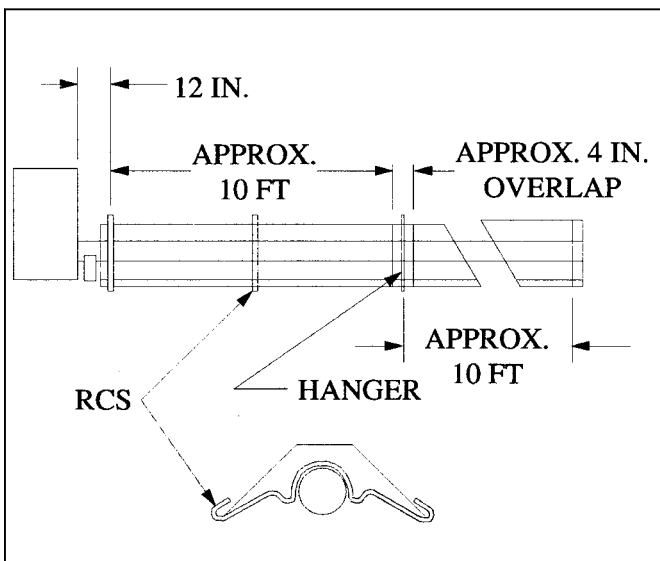
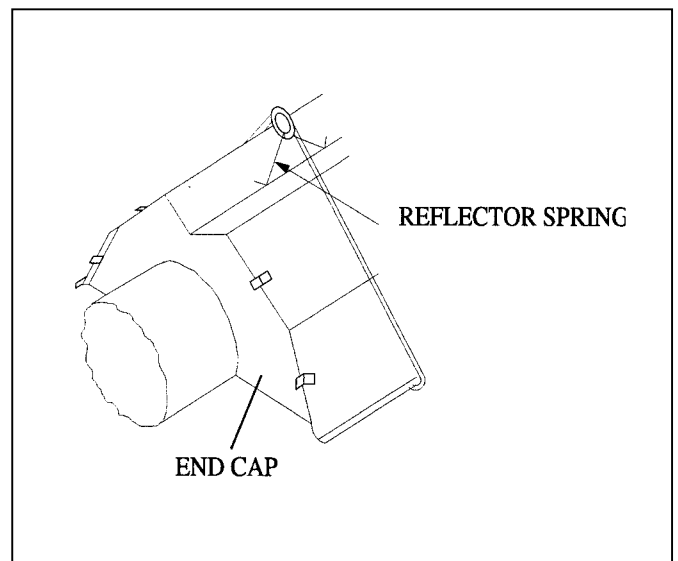

Figure 2-11
Figure 2-12
1. Install reflector center supports (RCS) as shown in Figure 2-11.
2. Slide reflector through wire hangers and adjust the reflector positioning spring in the V-groove on top of the reflector as shown in Figure 2-12. Overlap reflectors 4 in. for support (see Figure 2-11).
4. Install reflector end caps at exposed ends of the reflector runs with clips (Figure 2-12).